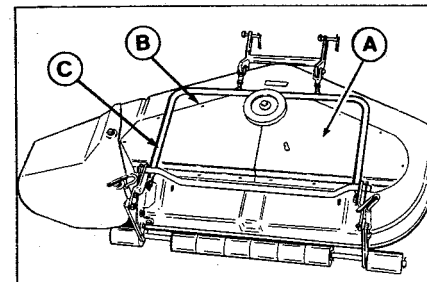

Figure 11A. Mower
2. Remove cotter pins to lift the bail assembly (C, figure 11A).